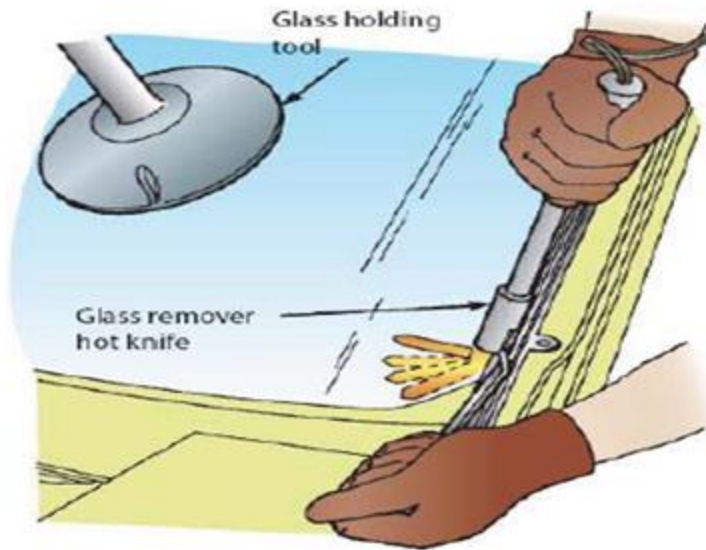

Fig 2.5. Use the power knife in bottom of the wind shield
6. Use the power knife in bottom of the wind shield where is it hard to reach the old adhesive, insert the knife and pull it carefully through the sealant (shown in Fig 2.5).